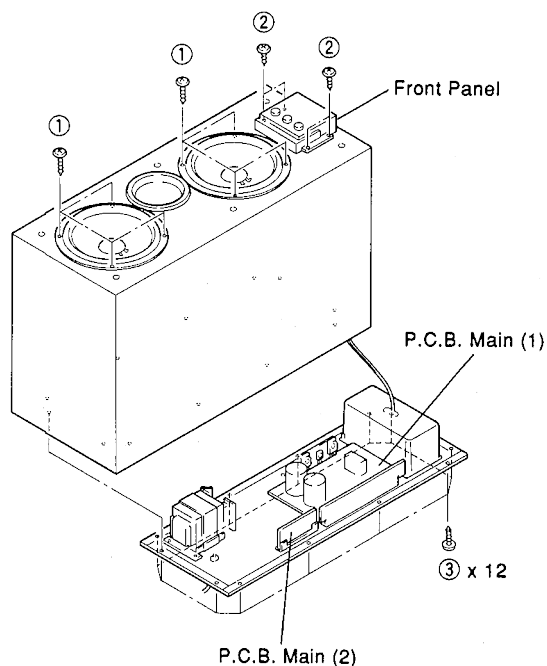

Fig. 2
- a. Remove 4 screws (①) in Fig. 2.
- a. Remove 4 screws (②) in Fig. 2, and remove the Front Panel with the P.C.B. Main (4), (5) and (8).
Remove 12 screws (③) in Fig. 2.